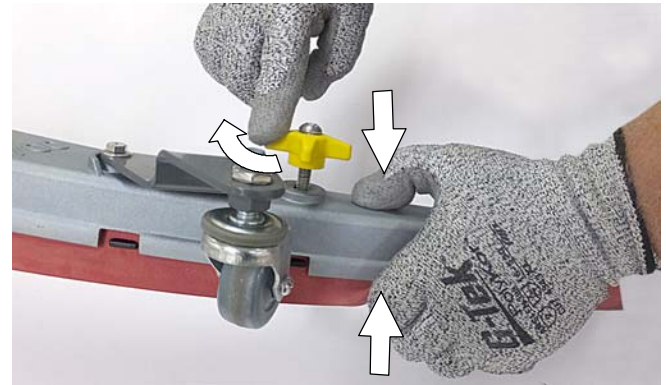

FIG. 136
5. Squeeze the squeegee frame and blade retainer together and re-tighten the two outside knobs (Figure 136).